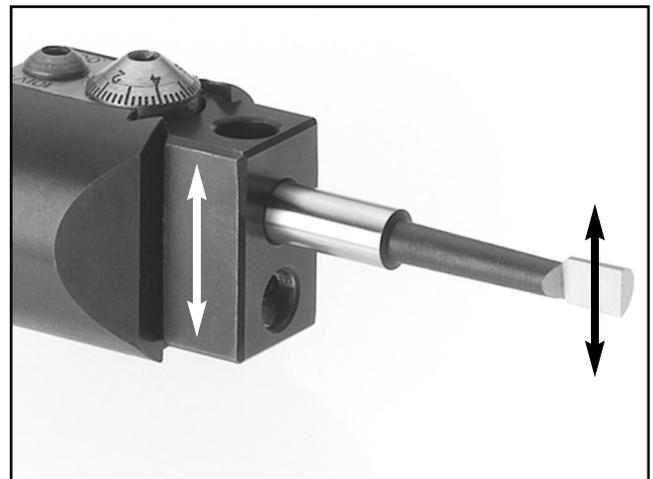

Figure 2. Face of boring bar aligned with boring head travel.
3. Place the desired boring bar into the boring head with the face of the boring bar aligned with the travel of the boring head (Figure 2). When everything is in the desired position, tighten boring bar locking setscrew.